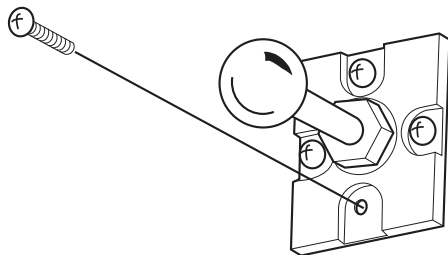

Fig. 1
1. Install the InvisiBall mounting bracket plate on the mounting surface as shown in Fig. 1. **Be sure to use anchor hardware that is appropriate for the mounting surface and that the mounting surface will adequately support the loudspeaker assembly.**